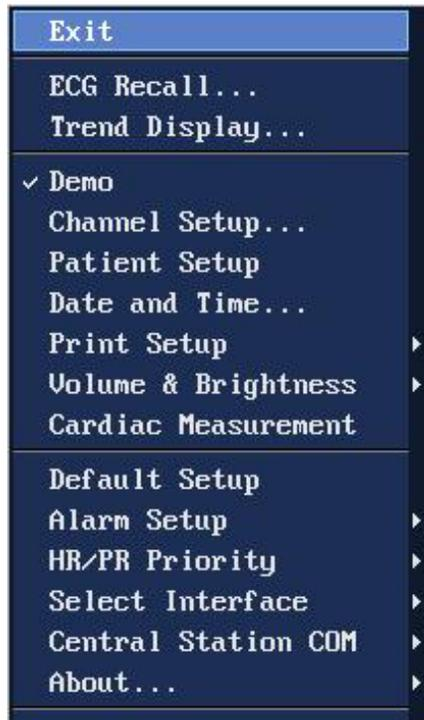

Fig. 5-1 System Setup Menu
Step 1: Press  to enter main menu (as Fig. 5-1);